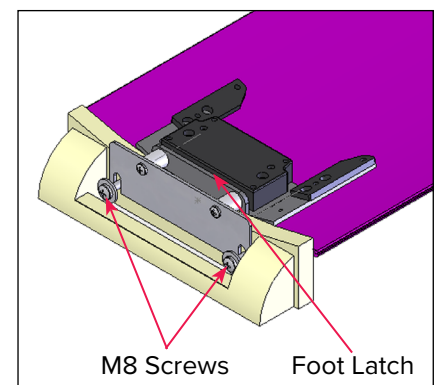

Fig. 24
4. Lower the foot end latch assembly onto the foot end of the cradle with the plate slots engaging the M8 screws (Fig. 24).
5. Tighten the M8 screws (Fig. 24).